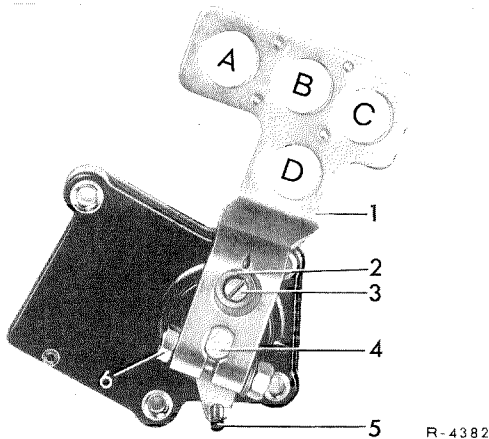

Fig. 27-3/6
Disconnect control pressure linkage (7) on ball head (5) and push lever "control pressure" (8) against idling throttle stop. The throttle valve lever (3) should rest against the idling speed stop, the idle travel (a) must be extended on pressure linkage (1). Push control pressure lever (8) on transmission back against stop. Adjust control pressure linkage (7) lengthwise, so that it can be pressed on ball head (5) free of tension (Fig. 27-3/4).
Loosen adjusting screw (3) and introduce locating pin (5) through driver into locating hole in shift housing (Fig. 27-3/6).
Association of Selector Rod in Relation to Bores in Range Selector Lever (Fig. 27-3/6)